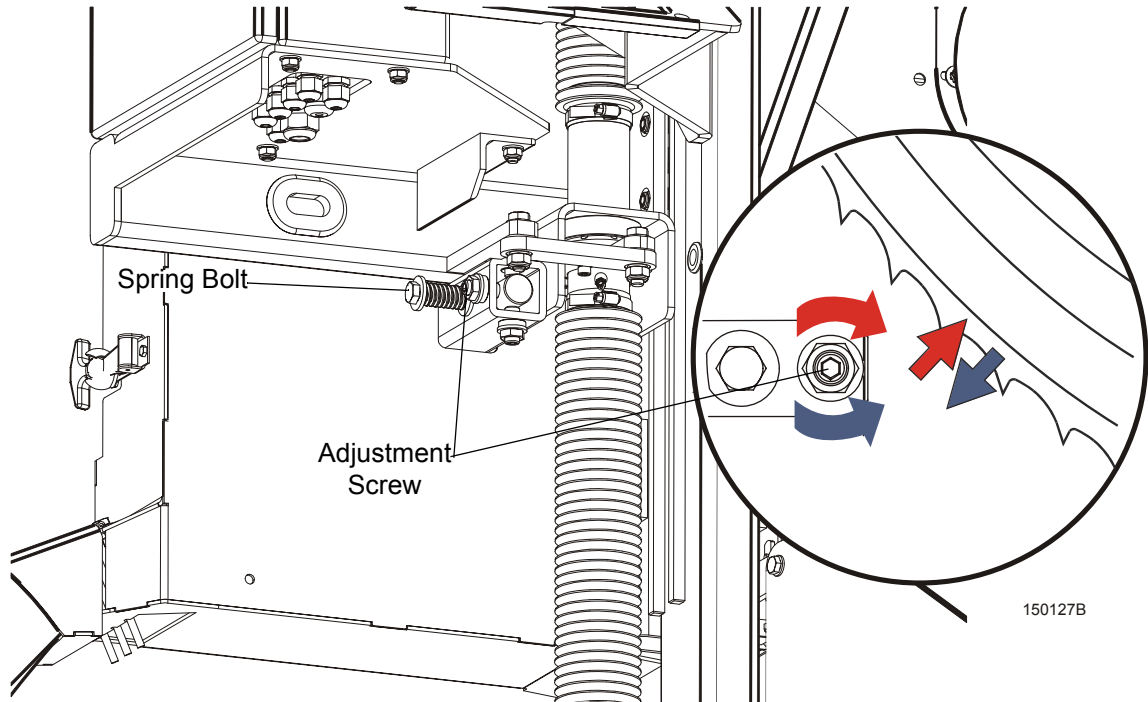

FIG. 6-7
**See Figure 6-7.** Use the horizontal adjustment screw to adjust the drive-side blade wheel. Loosen the jam nut on the adjustment screw. Loosen adjustment screw to move blade out on wheel. Tighten adjustment